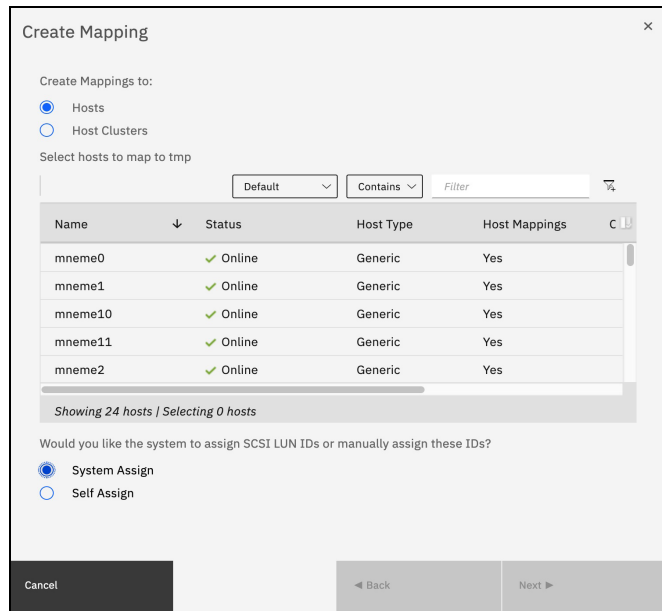

Figure 4-12 Create Mapping window
- h. Verify the volume, and then, click **Map Volumes** (see Figure 4-12).